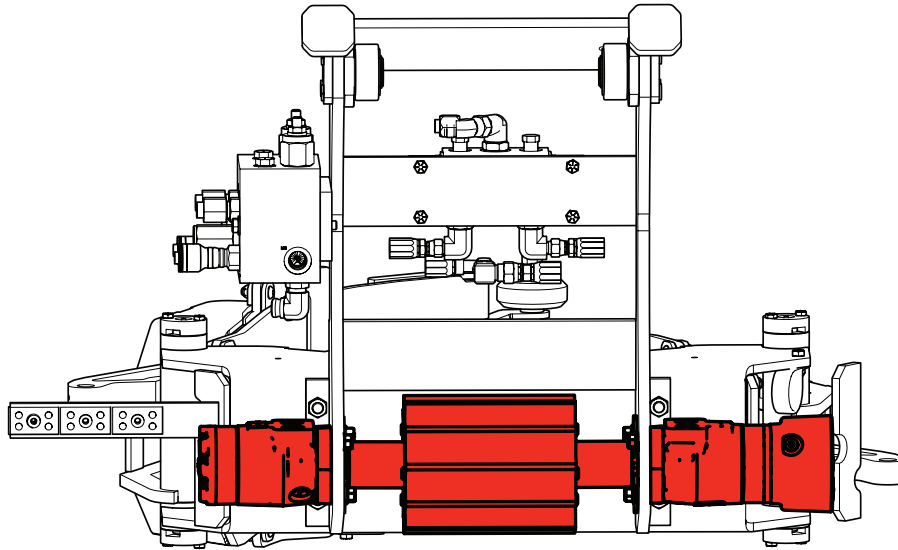

Figure 5
**NOTE: The next steps detail work conducted on the backside of the grabber carriage assembly (see Figure 5).**
10. Remove the motors, grabber gear, and all related hardware (Figure 5). Retain these items until further notice in this bulletin.